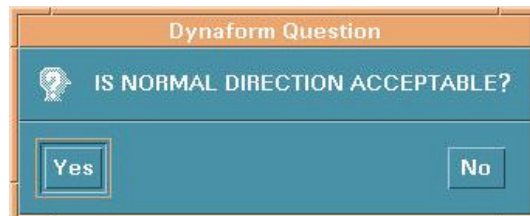

Figure 6.5.2 Plate Normal Question
- A DYNAFORM Question window appears, see Figure 6.5.2.